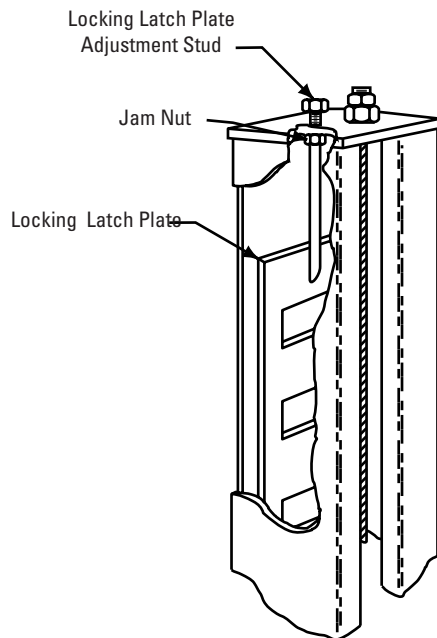

Fig. 35
- I. Always recheck the level of the runways to be sure all four locking latch plates are adjusted correctly. Start at point "A" and recheck level at points "B", "C" and "D", Fig. 35. Readjust, if needed.
- J. To complete the leveling procedures, lock each locking latch plate jam nut tightly against bottom of column top plate, Fig. 35.